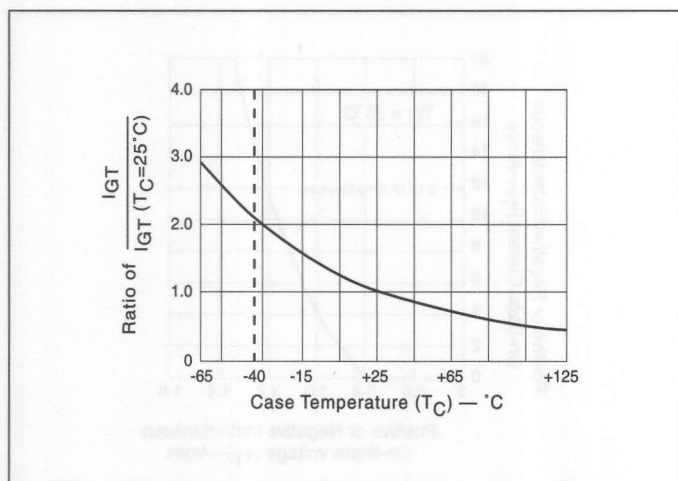

Figure 4.8 Normalized DC Gate Trigger Current for all Quadrants vs Case Temperature
- See Figure 4.8 for I_{GT} vs T_C .